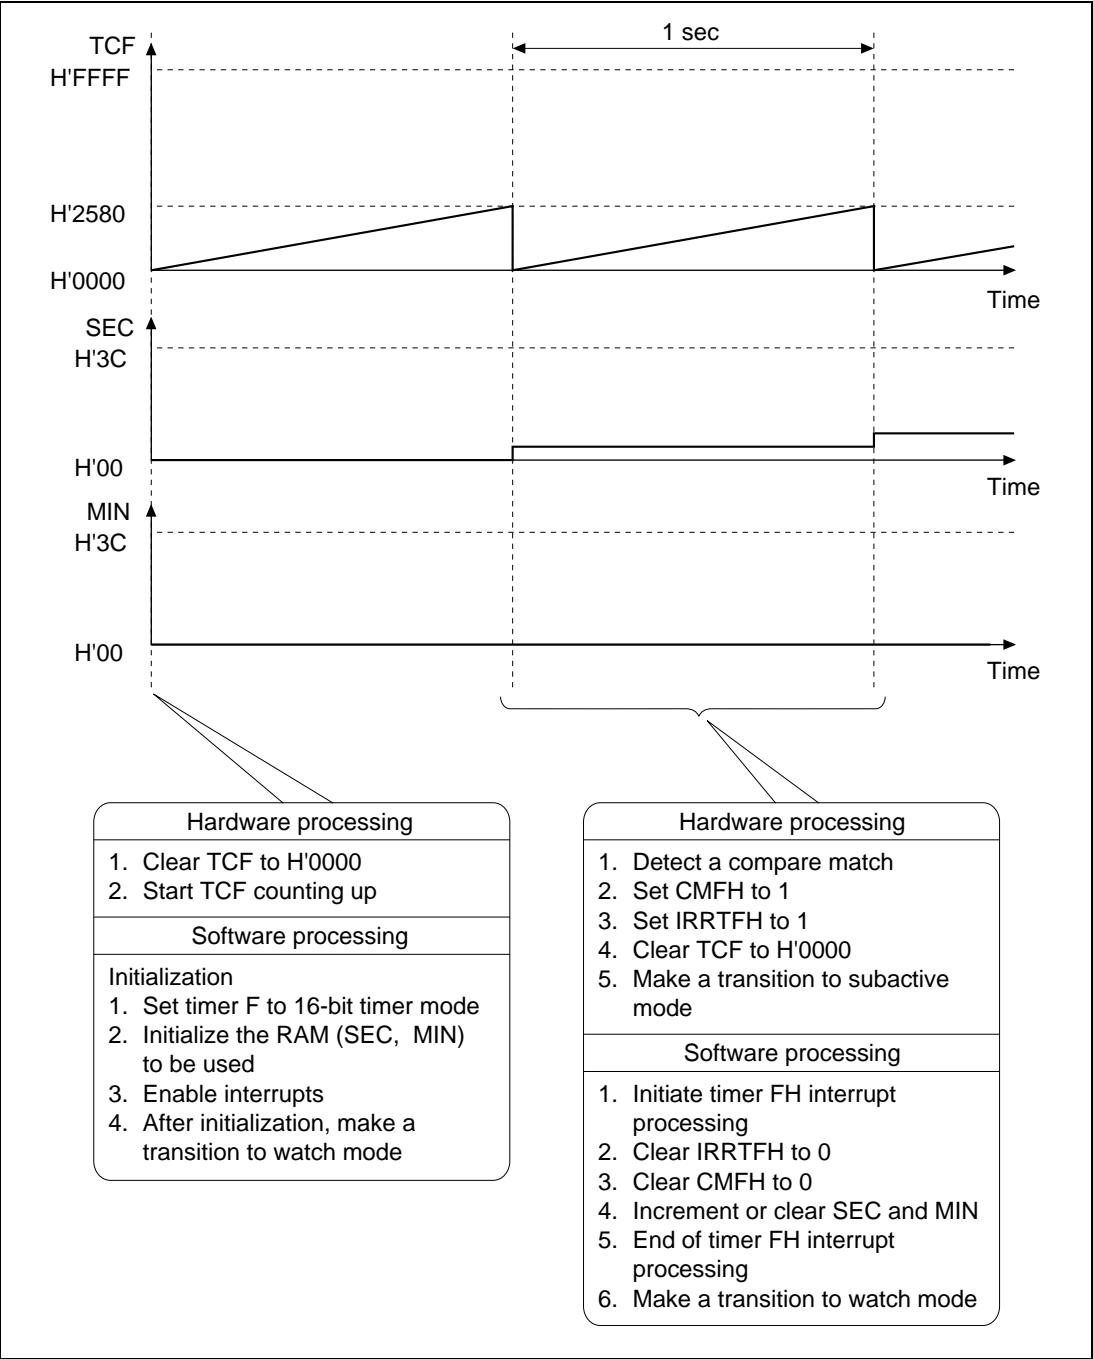

Figure 5 Operation Principle
3. Figure 5 illustrates the principle of operation in this task example.